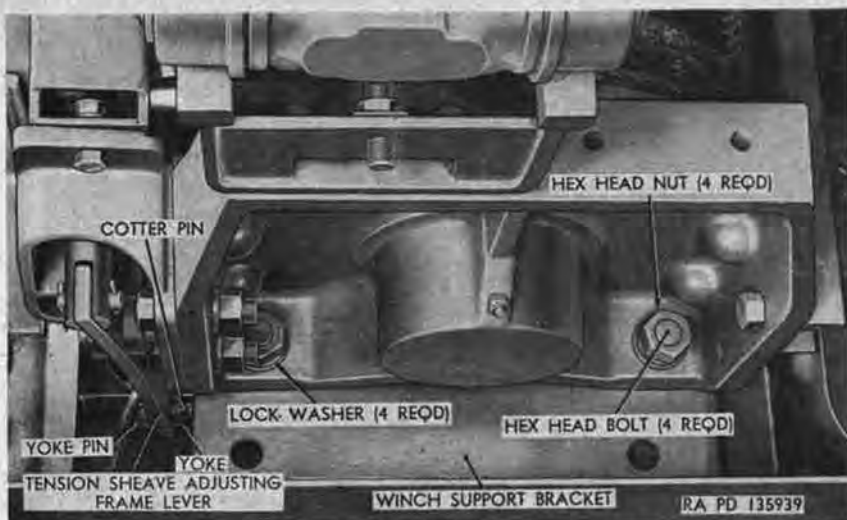
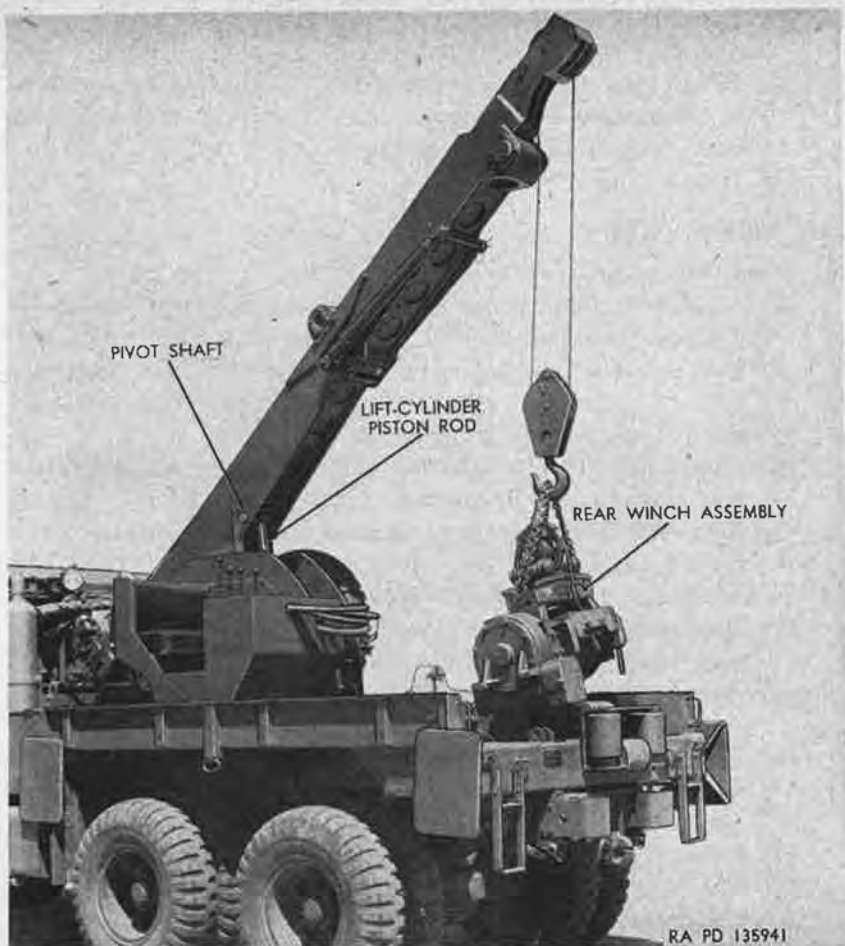

Figure 279. Top view of right end of rear winch—installed.
Figure 280. Removing rear winch assembly using wrecker crane.
- (d) Check opening between sheaves with a $\frac{5}{8}$ -inch diameter rod. If rod cannot be inserted between sheaves, or if rod fits loosely between sheaves, adjust cable tensioner ((2) below). If opening between sheaves is correct (sheaves just closed on rod), proceed as in (2) (g), (h), and (i) below.
- (a) Remove cotter pin (fig. 279) and yoke pin securing air-chamber push rod yoke to lower end of tension-sheave-adjusting-frame lever, and remove yoke from lever.
- (1) Remove cotter pin (fig. 279) and yoke pin securing air-chamber push rod yoke to lower end of tension-sheave-adjusting-frame lever, and remove yoke from lever.
- (3) Remove drive chain (par. 265i).
- (4) Remove four hex-head bolts (fig. 279), nuts, and lockwashers securing winch to left and right support brackets.
- (5) Remove chain and hook assembly from winch cable.
- (6) Using wrecker crane (fig. 280) or other overhead hoisting equipment, remove rear winch from vehicle.
- (1) Lift rear winch into position on rear of wrecker body, and align winch mounting holes with holes in left and right support brackets.
- (2) Secure winch to support brackets with four hex-head bolts (fig. 279), lockwashers, and nuts.
- (6) Position air-chamber push rod yoke on lower end of tension-sheave-adjusting-frame lever (fig. 279), and secure with yoke pin and cotter pin.